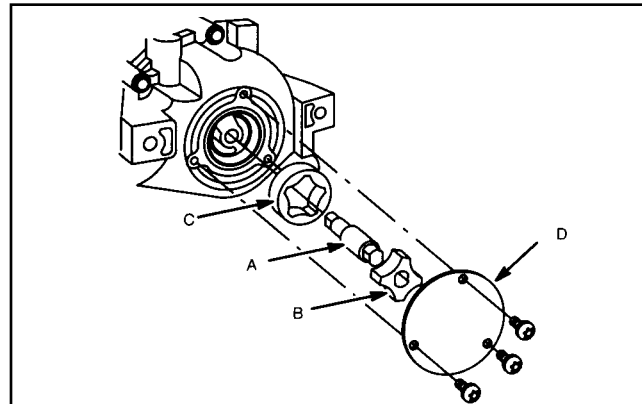

Fig. 16 - Install Oil Pump
3. Lubricate oil pump components with engine oil and assemble to sump, Fig. 16. Make sure drive shaft is engaged in camshaft.